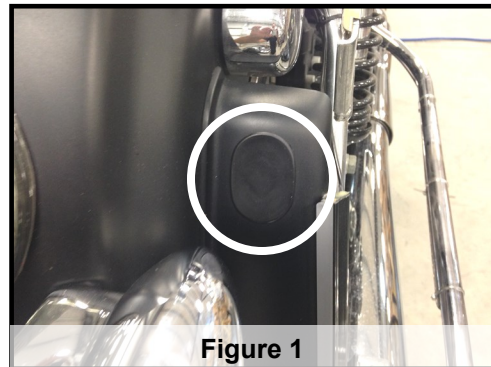

Figure 1
2. Remove the stock rubber Plugs and/or grommets from the antenna port holes in the filler strip. (See Figures 1&2)